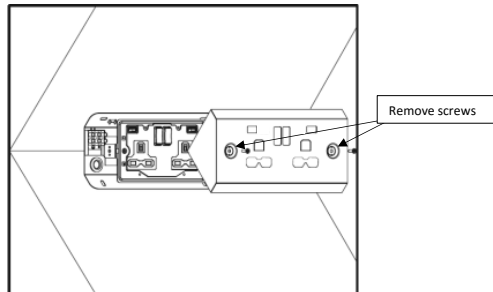

Fig 1
- Remove the two screws on the front plate to remove the plate (see Fig 1)